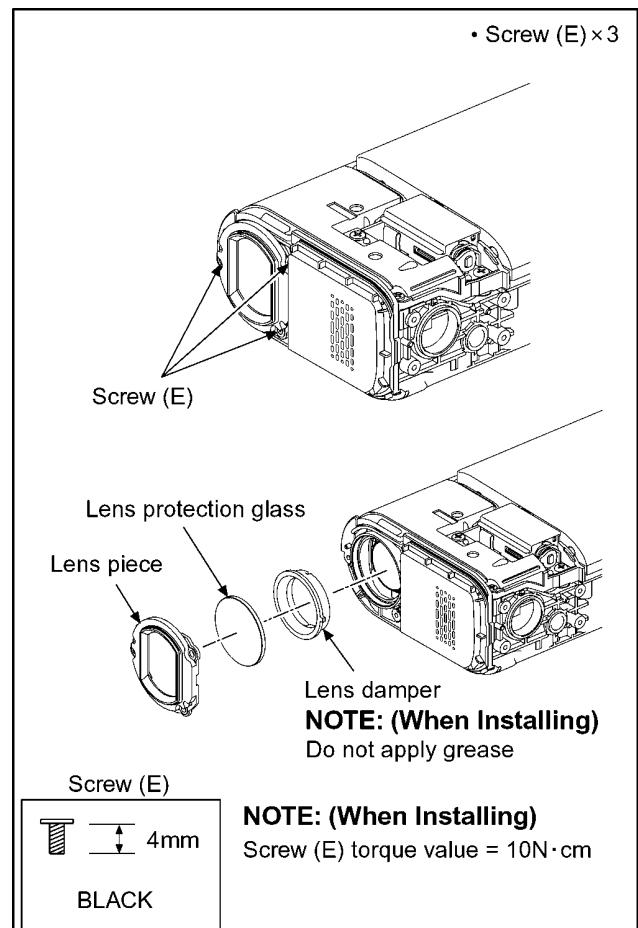

Fig. D6
| 5 | Lens piece, Lens protection glass Lens damper | Fig. D6 | 3 Screws (E) Lens piece Lens protection glass Lens damper |